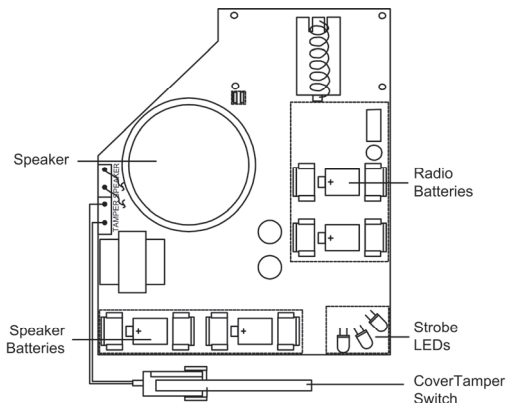

Figure 4-1: Siren Strobe – PCB Diagram
5. Insert the batteries while paying attention to polarity (see Figure 4-1).
2. Open the Siren Strobe and take out the batteries (see Figure 4-1).